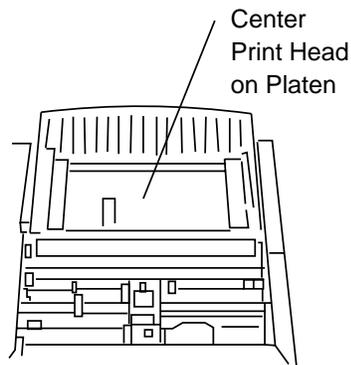

Figure 16-2. Print Head Position
3. Slide the print head to the center of the carriage as shown in Figure 16-2.